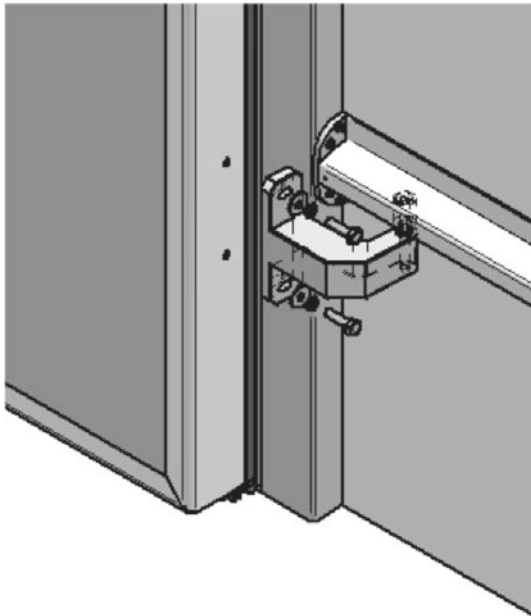

Fig. 7
- Remove the two M10 screws that fix the rear adjuster (Fig. 7), insert the roller into the lower guide and then secure the rear adjuster to the leaf door